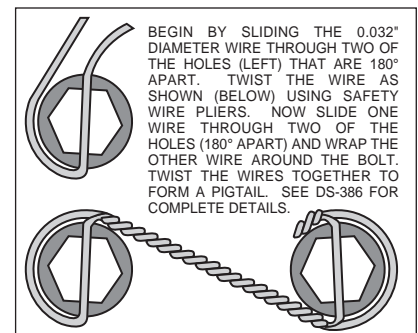

Figure 6. Safety Wire Diagram
- With the slot pointing upward and the mounting ears pointing towards the rear of the vehicle, install the caliper mounting bracket (1) to the housing flange using the stock Original Equipment Manufacturer (OEM) bolts and nuts. Stock OEM hex nuts that retain the bracket (1) should be on the wheel side of the bracket. Apply red *Loctite*® 271 to the stock OEM bolt threads and torque to OEM specifications. **NOTE:** Some brackets act as the bearing retainers, while others help locate the bearing in the axle housing flange. If the stock bearing plates are still on the axle, the caliper mounting brackets (1) should be located between the axle housing flange and the bearing retainer plate. Make sure the heads of the caliper mounting bracket insert nuts are FACING OUTWARD TOWARDS THE WHEEL.
- Bolt the hat (2) to the rotor (3) using washers (4) and bolts (5). Torque bolts (5) to 180 in-lb. Safety wire bolts (5) using standard 0.032 inch diameter stainless steel safety wire as shown in Figure 6. Please refer to Wilwood's data sheet DS-386 (available at) for complete safety wire installation instructions.
- Align the correct hole pattern in the hat (2) with the stud pattern on the axle flange. **NOTE:** Some OEM and after market axles come with stud sizes larger than 0.50" diameter. Verify stud size and have a qualified machine shop drill the hats to the correct size. Slide the hat/rotor assembly (2 and 3) over the wheel studs and against the axle flange face.